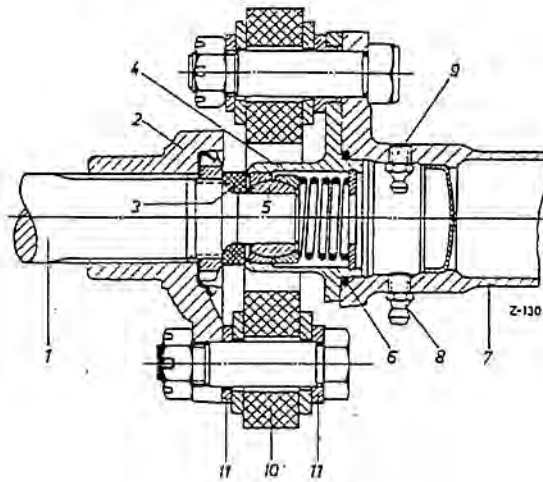

Fig. 25-15/11
25. Press the propeller shaft forward and connect it, not forgetting the rubber seal (3) (Fig. 25-15/11).